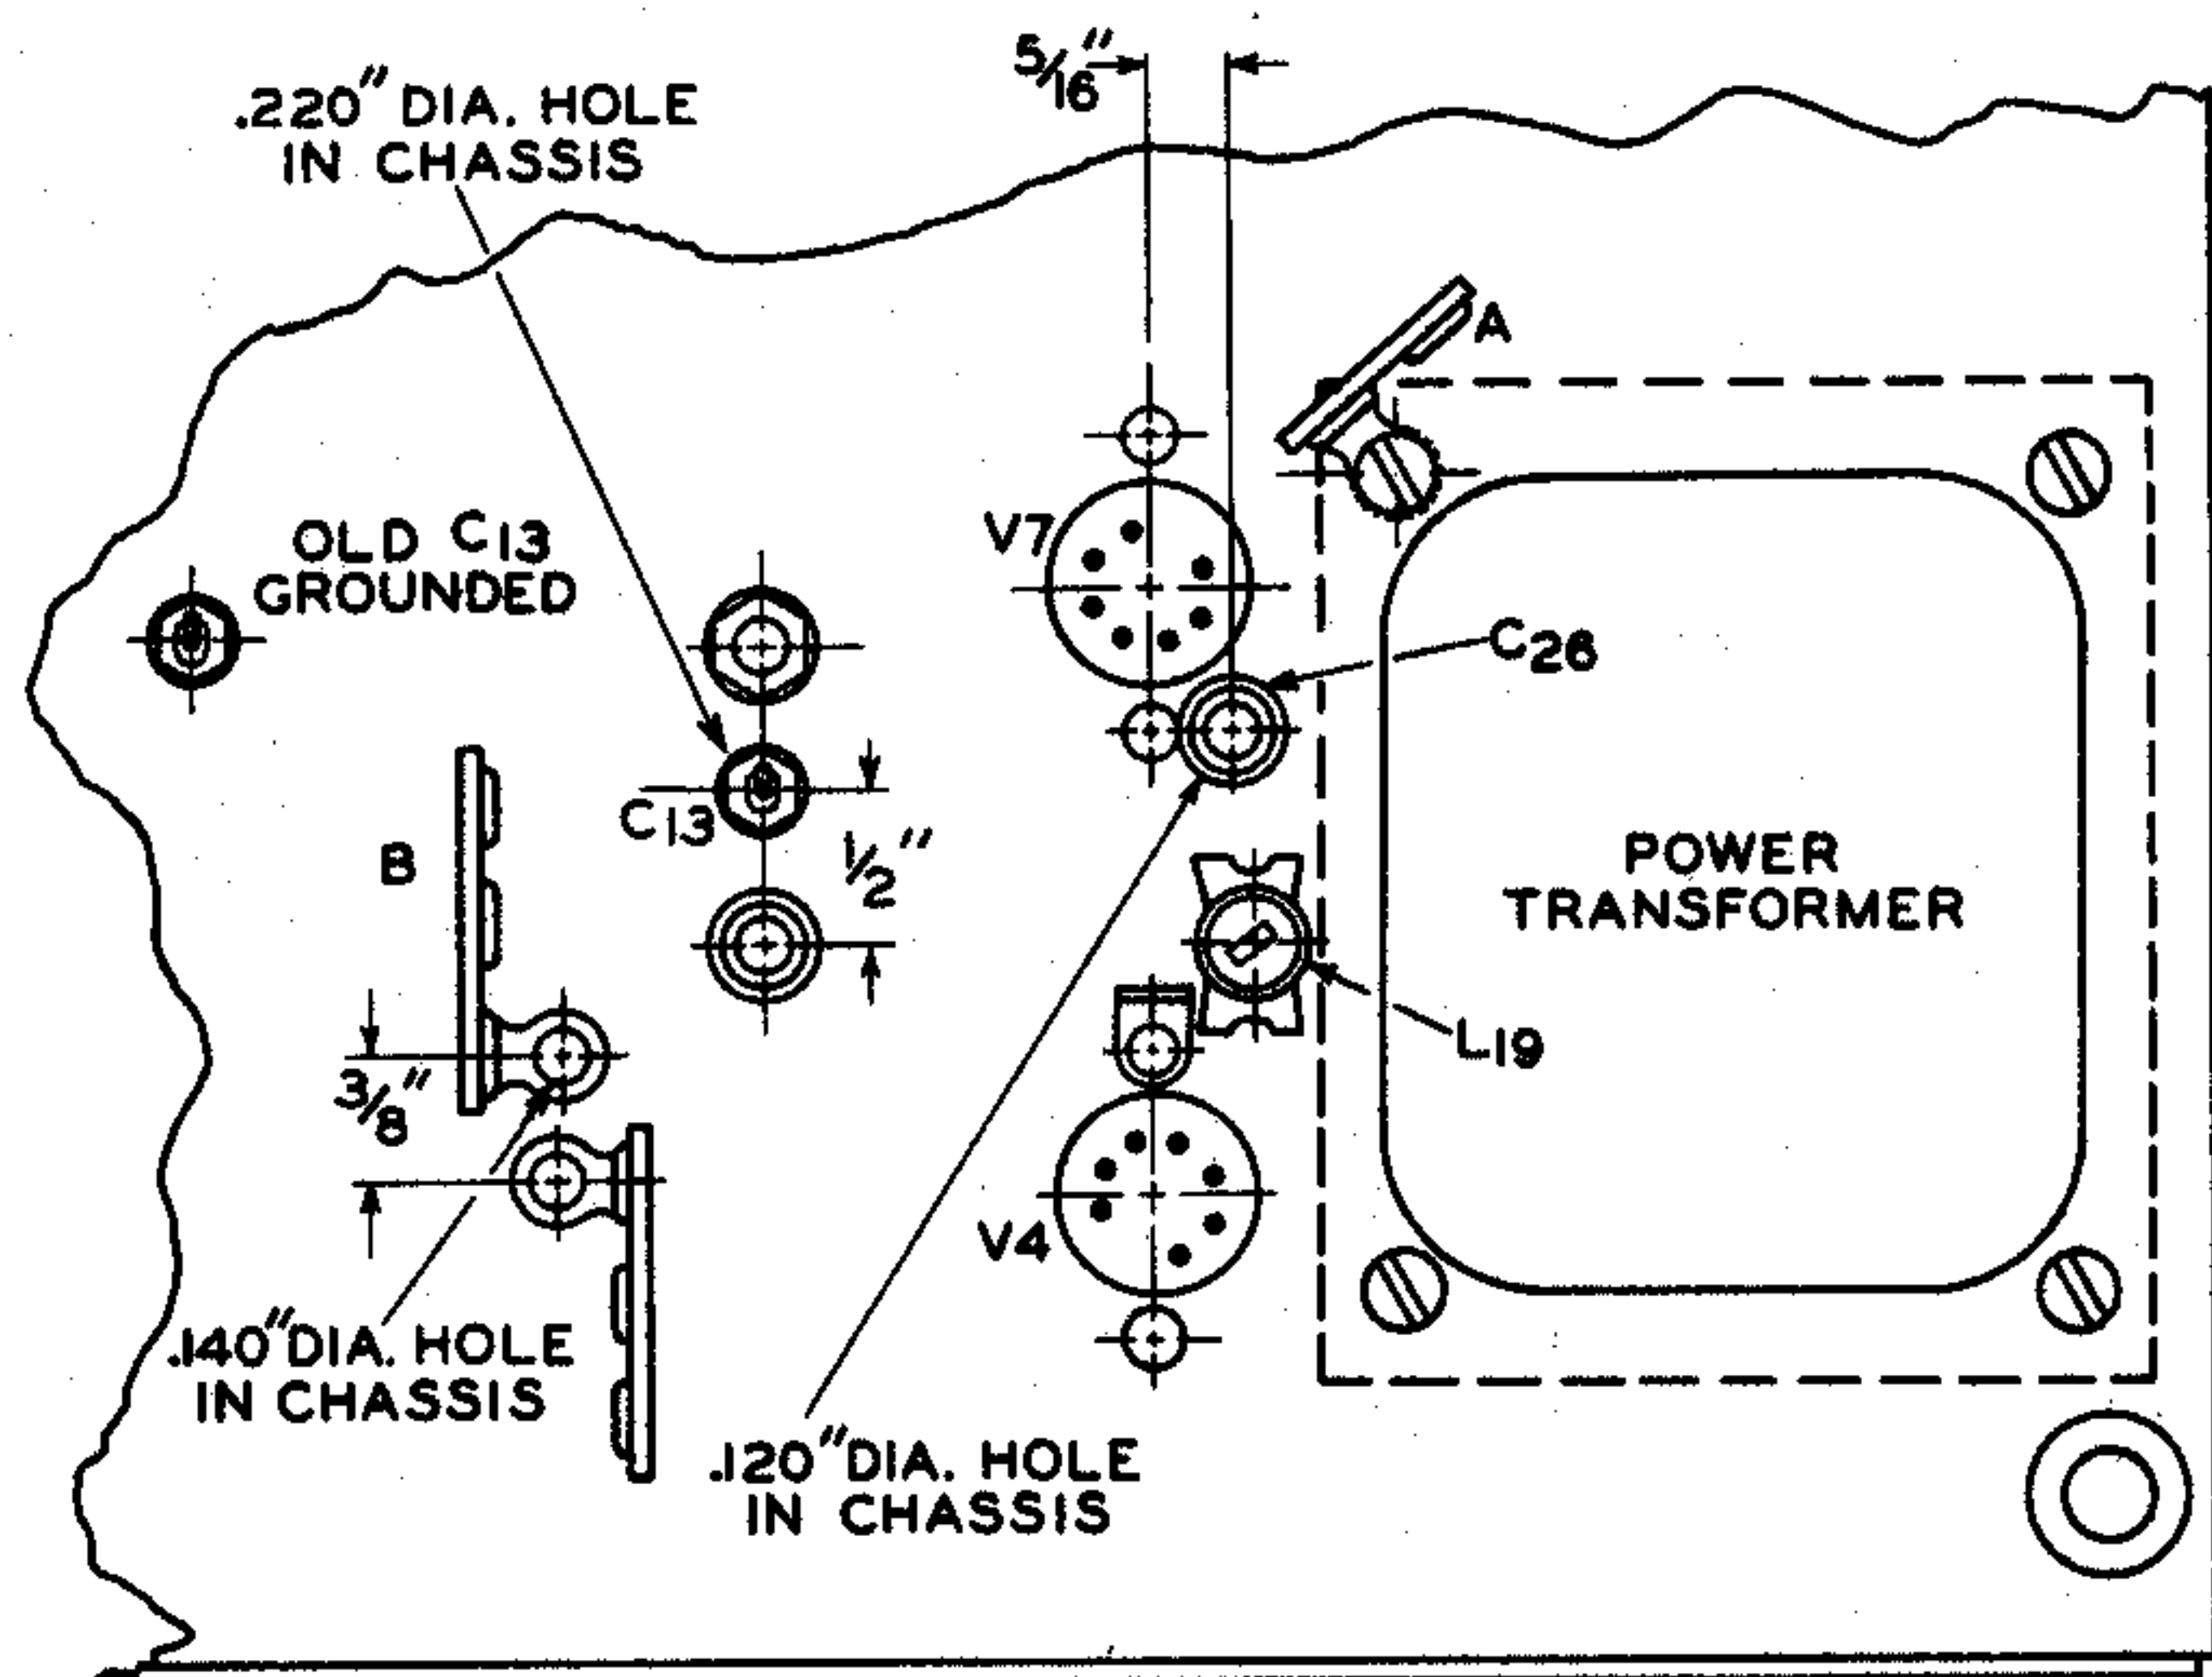

Fig. 1 - Chassis Layout
5. Drill 3 holes as indicated on the chassis layout, Figure 1. Use care in drilling to avoid possible damage to components and to keep metal particles out of the vibrator unit.
8. Install the two terminal strips, A and B, in the locations indicated on the chassis layout, Figure 1. Use a self-tapping screw to mount the 3-lug terminal strip (B).
9. Transfer lead from middle lug of old 3-lug terminal strip to middle lug of new 3-lug terminal strip (B).
11. Install L19, new C13, and C26 in the locations indicated on the chassis layout, Figure 1.